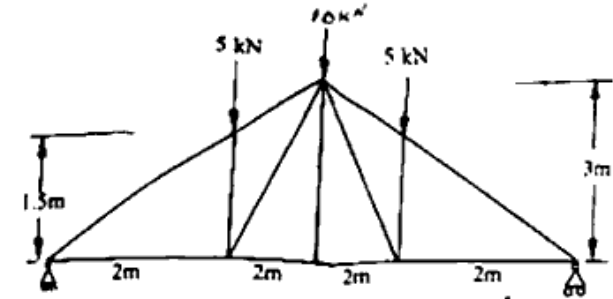

Figure 2 (आकृति 2)
2. Determine the forces in all the members of the truss shown in figure 2 by using method of joints. 14